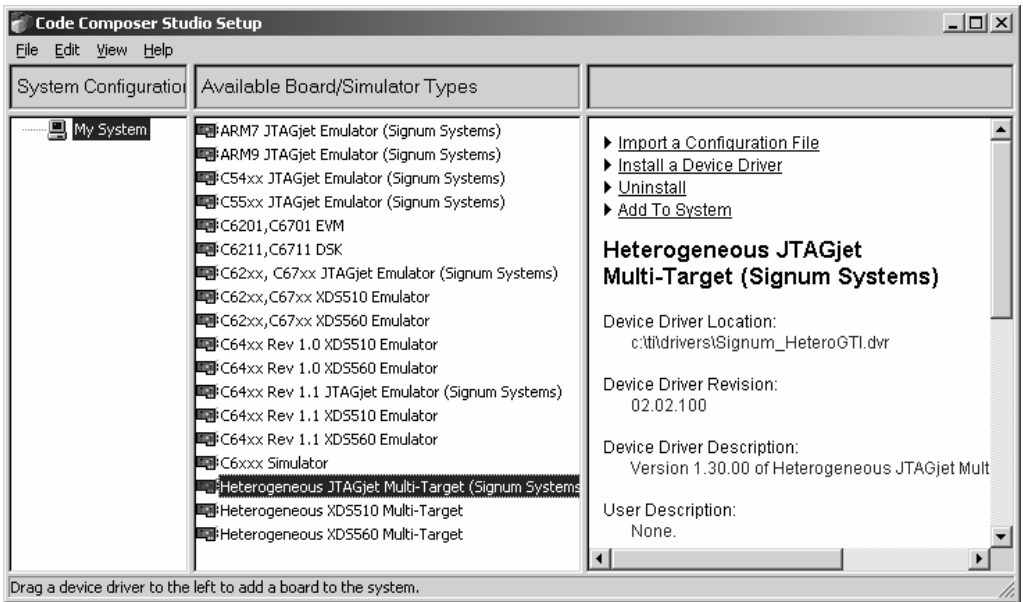

FIGURE 16 Code Composer Studio Setup dialog box.
1. Make sure that the System Configuration pane is empty. Drag the Heterogeneous JTAGjet Multi-Target (Signum Systems) entry from the middle pane to the left pane, as shown in Figure 16.